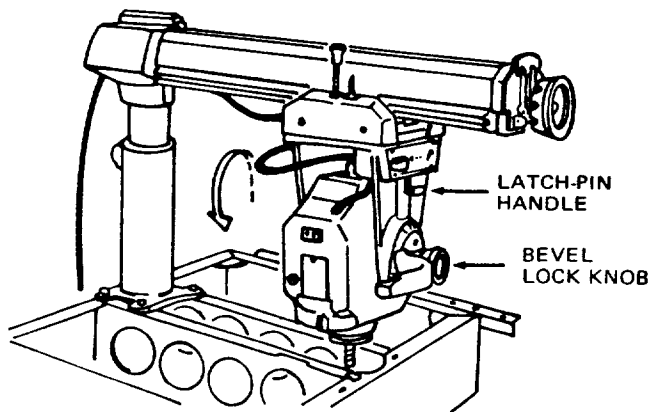

Figure 7
2. Adjusting the Table Supports Parallel to the Radial Arm (Figures 7 through 10)